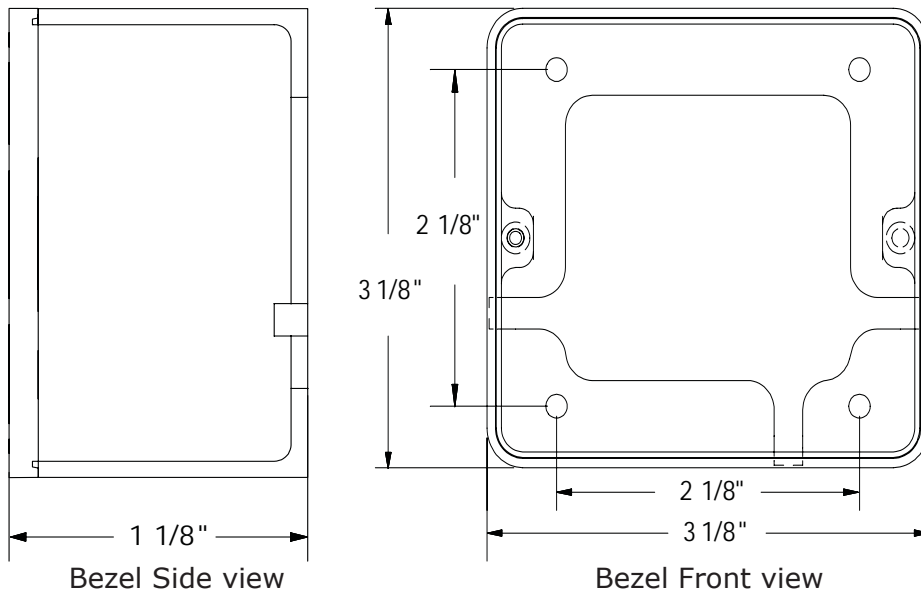

Figure 2-2, Surface Mount Bezel Dimensions
2. Refer to figure 2-2 for Surface Mount Bezel dimensions.